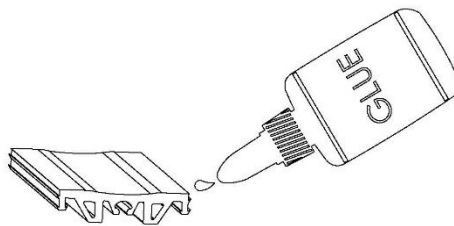

Figure 3
3. Apply a super glue, cyanoacrylate type (non-gel) or similar adhesive (by others) and follow instructions by the adhesive manufacturer. **See Figure 3**